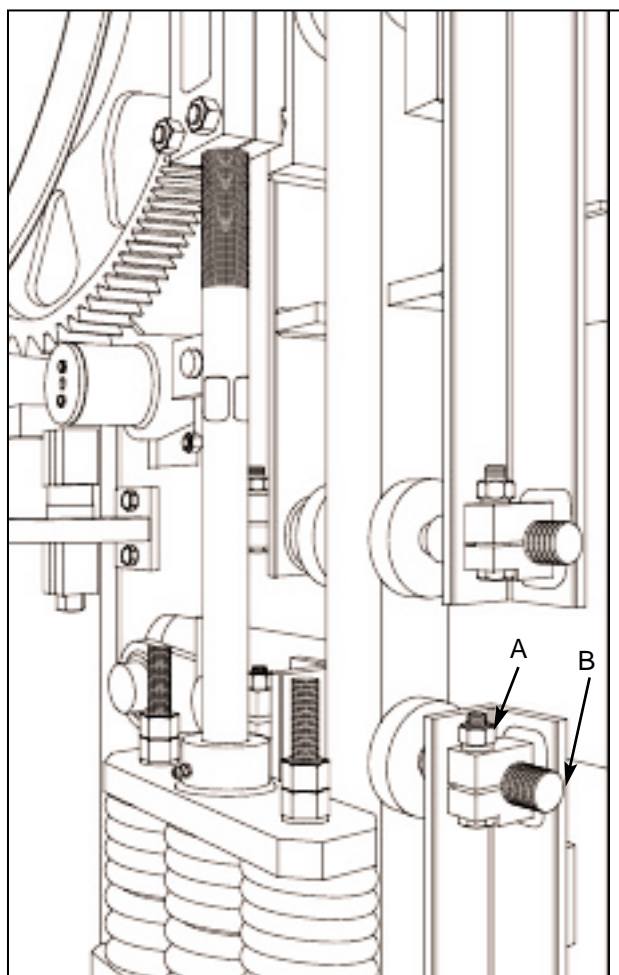
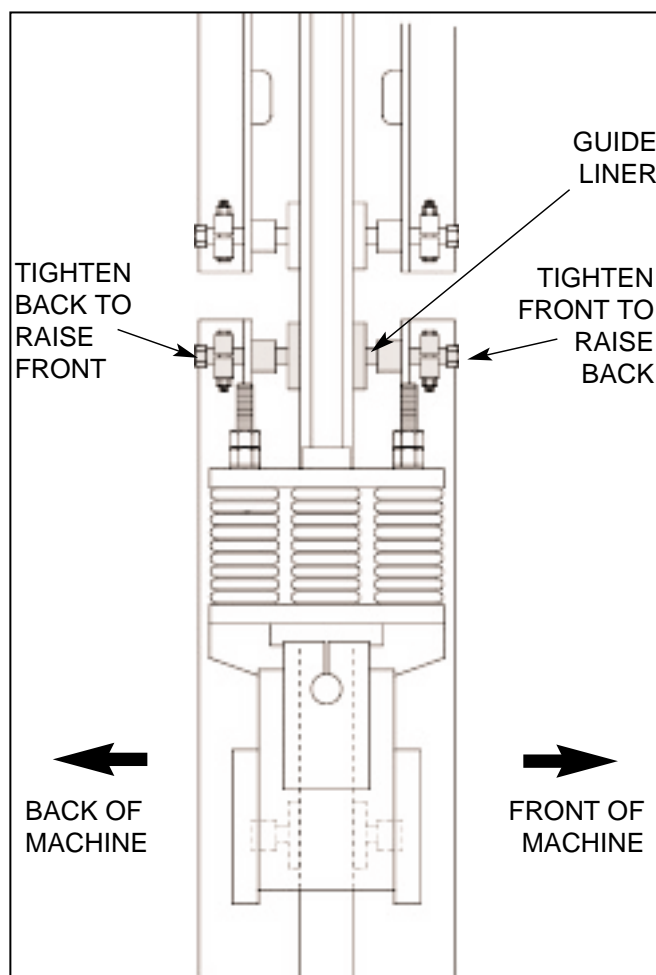

Figure 5.19 UPPER GUIDE LINER
Figure 5.20 PALLET RECEIVER FRAME ADJUSTMENT.
a. To make the following adjustments (see figure 5.19):
1. Loosen the nut (A).
2. Adjust the guide liner (B) as desired.
3. Tighten the nut (A).
5.5.13 Make adjustments on right hand side by backing one guide liner away from slide shaft and tightening the other against the slide shaft. To raise the front, loosen the front and tighten the back. To raise the back, loose the back and tighten the front. See figure 5.20 below.